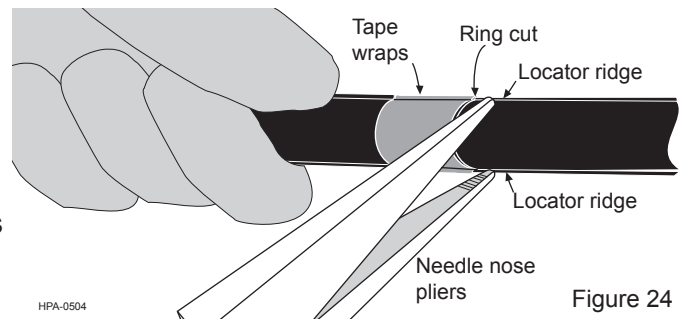

Figure 24
Step 1: Use needle nose pliers to firmly pinch the outer sheath on one side of the FastAccess™ Technology locator ridges (Figure 24). Direct the pressure on the sheath rather than the cable core.